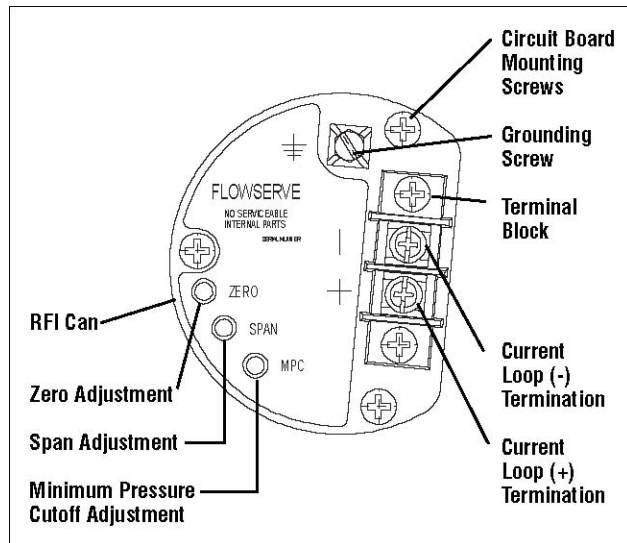

Figure 7: KM82 Circuit Board Module
2. Remove I/P module housing cover. (See Figure 7.)
The APEX A8000 positioner with I/P Transducer has a “Minimum Pressure Cutoff” (MPC) feature, which allows the user to set the positioner. When the input signal falls below a user-adjustable current, the pressure output falls rapidly to approximately 1.7 psi, causing the valve to move to the failure position. This feature is generally used when the service requires a tight shut off or to prevent throttling near the valve seat. To adjust this feature, refer to Figure 7 and perform the following: